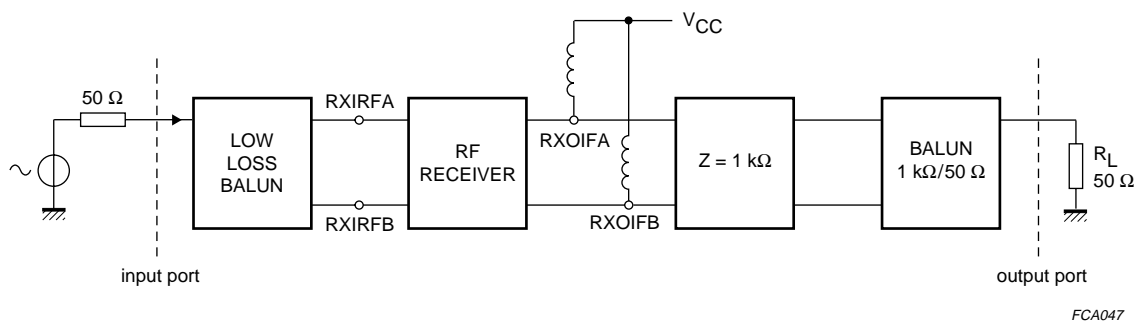

Fig.3 RF receiver test principle.
2. The IF output has open collectors which are supplied via external inductors. External resistors are also needed to set the output impedance and to match the IF output to the specified load resistance  $R_L$  (see Fig.3).